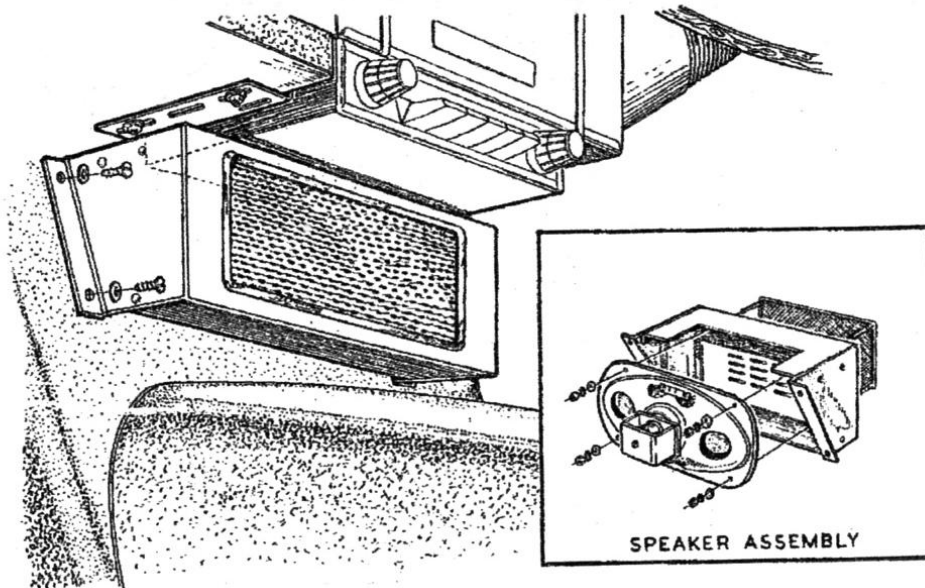

Fig. 5.
2. Assemble loudspeaker, bezel and grille to mounting box as shown in Fig. 5. (inset).
4. Locate loudspeaker box centrally underneath the control unit on the bulkhead as shown in Fig. 5.